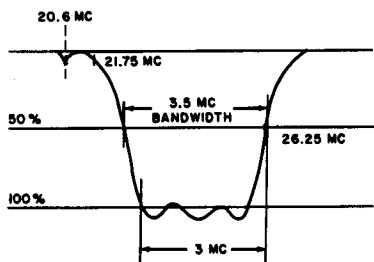

Fig. 28 — Trav-ler TV
**Improving tracking in fringe areas (see Fig. 28).**